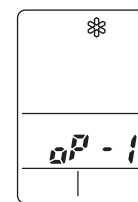

Fig. 59b
- After a few seconds, “\*” appears and “oP-1” blinks in the remote controller display area. (Fig. 59b)